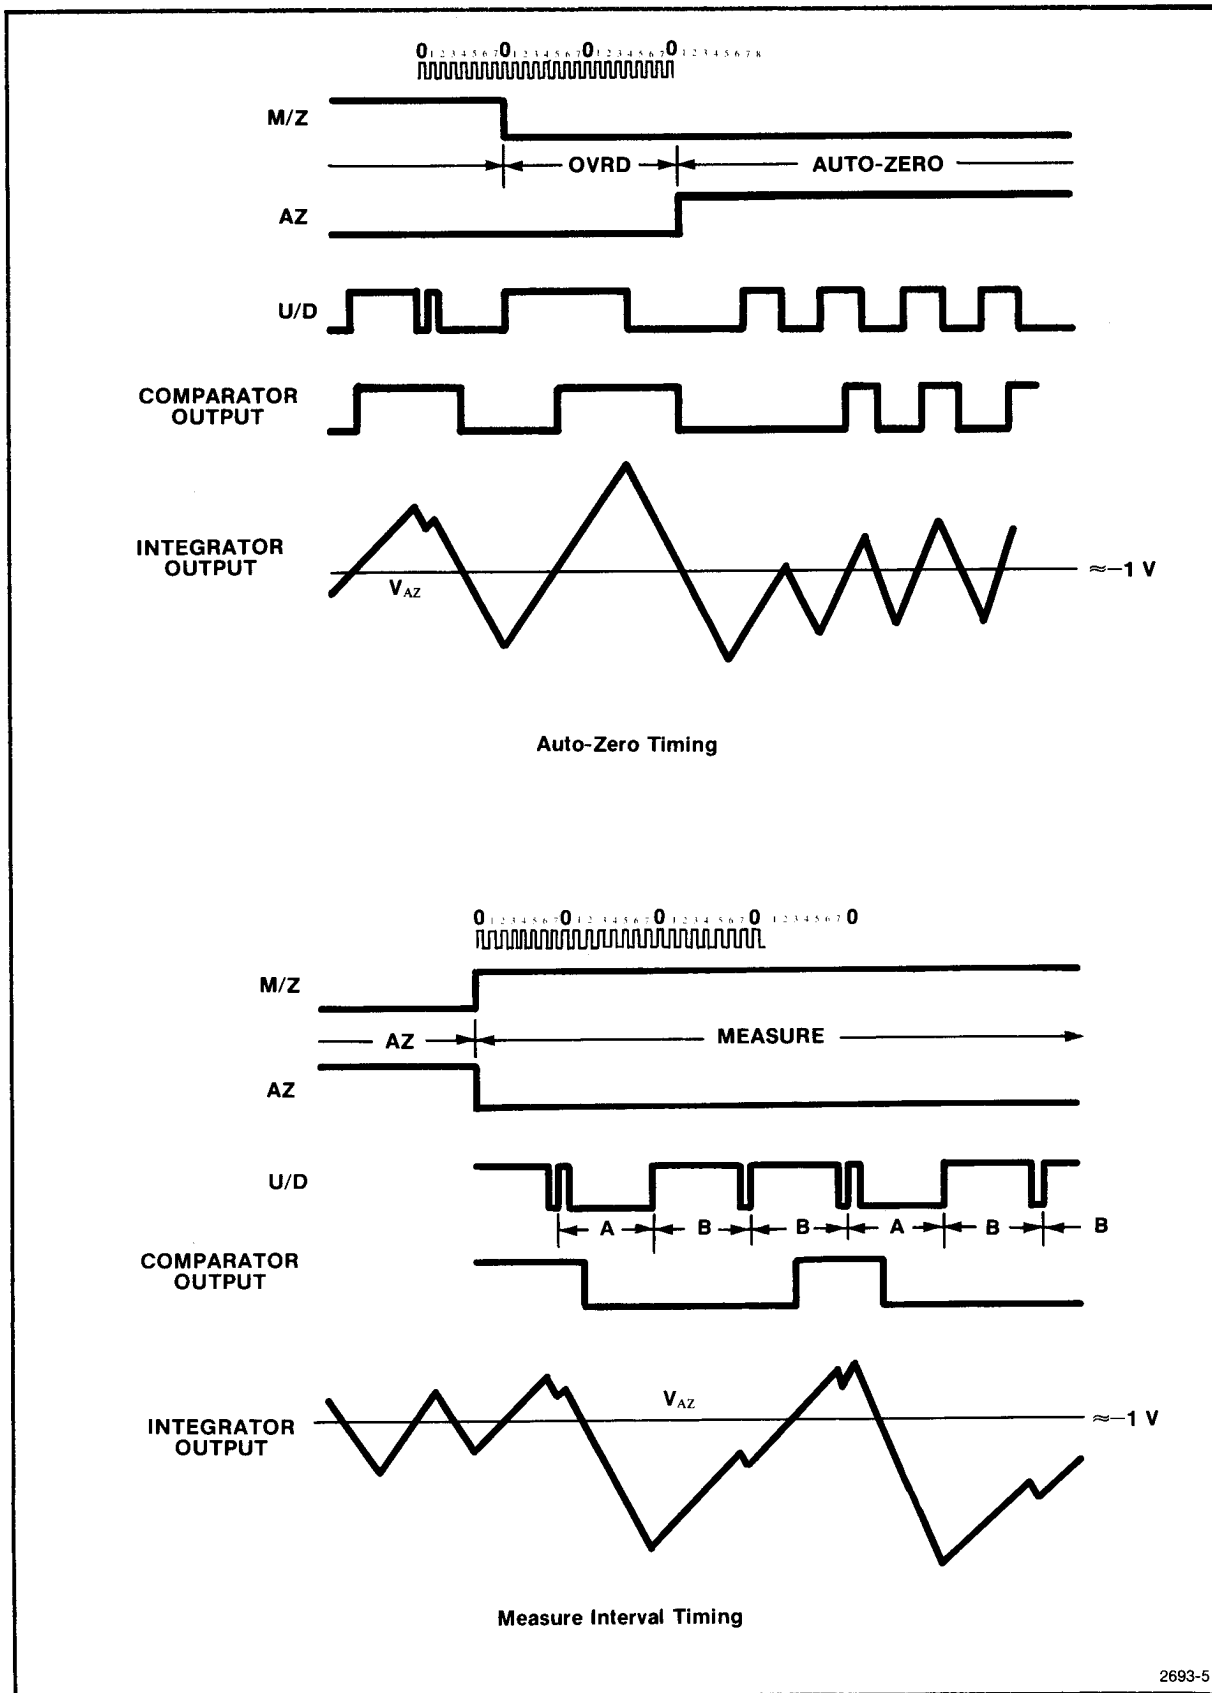

Fig. 3-1. Auto-zero and measurement interval timing sequences.
Referring to Fig. 3-1, the auto zero (AZ) interval nulls out the offset voltages generated in the internal amplifiers used in the analog-to-digital converter. A tracking reference voltage is automatically established. This voltage is necessary for bipolar conversion. The auto zero sequence is initiated when the measure-zero (M/Z) signal from U1311 switches the input buffer amplifier to ground. After a brief count correcting override period, the auto zero amplifier and integrator are connected together. During this time, the control logic in U1311 ignores the comparator output and pulses the internal up-down switch of U1461 at a 50% duty cycle (4 clock periods up and 4 clock periods down). Equilibrium of this system is attained when the average currents through R1458, R1443, and R1455 are equal and opposite. The auto zero voltage is thus established and stored on C1562. This is approximately -1 V and is noted on Fig. 3-1. This auto zero voltage stored on C1562 establishes a reference voltage for the up-down (U/D) logic to switch either a plus or minus reference current to the integrator during conversion. When the up-down line (U1461, pin 4) is high, the reference voltage is positive. The auto zero time interval is sufficient to ensure that the auto zero voltage is well established.
The digital control logic in U1461 feeds units of charge (controlled by an analog comparator) to the integrating capacitor, C1432. This charge balances the charge supplied to the integrator by the analog input voltage. The sign of the charge fed back depends on the two up-down duty cycles available during the measurement interval as shown in Fig. 3-1. The comparator output is high when the charge on C1432 is above approximately -1 V and low when the charge is below approximately -1 V. The clock for the converter is generated by U1611. Potentiometer R1523 is adjusted for a frequency of 20.48 kHz. The up-down logic is high for 1 clock cycle and low for 7 clock cycles for a high comparator output in the clock cycle preceding the set of 8 cycles just described. This is designated duty cycle A. When the comparator output is low in clock cycle 7, the up-down logic is high for 7 cycles and low for 1 cycle during the 8 clock cycles following duty cycle A. This is shown as duty cycle B. The bottom waveform in Fig. 3-1 shows the effect of these two reference duty cycles on the integrator output (pin 11 of U1461). When the up-down logic is in the high state (duty cycle B), the integrator output voltage rises. The bcd counter in U1311 increments by each clock pulse when the up-down logic is high and decrements by each clock pulse when the up-down logic is low. The net count increases by 6 counts for the B duty cycle and decreases by 6 counts for the A duty cycle.